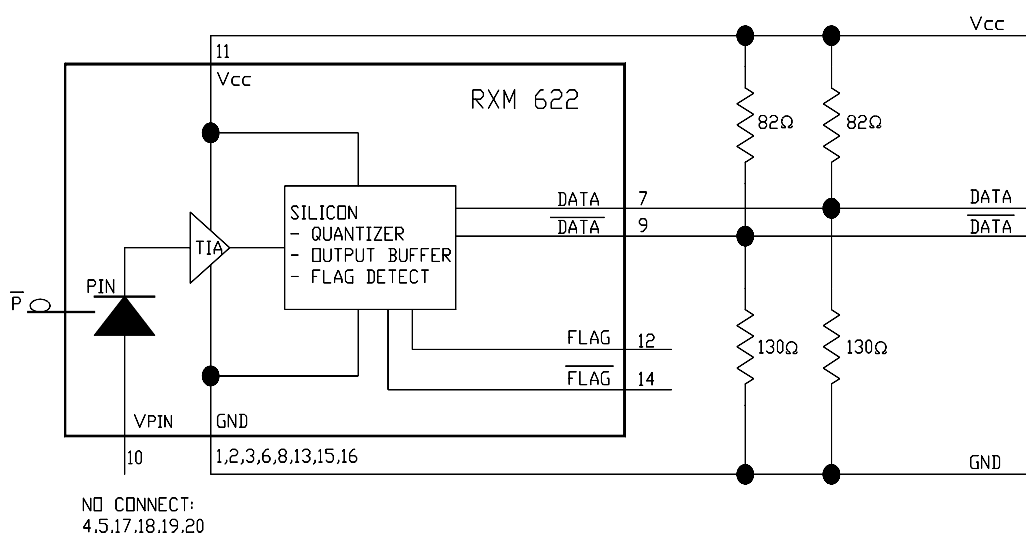

Figure 3. PECL Interface
1. Measured with a load of $R_L = 50\Omega$ to $V_{CC} - 2V$. See figures 3 and 4. ECL levels are specified for dc measurement, an additional tolerance of 50 mV should be included for dynamic measurements.